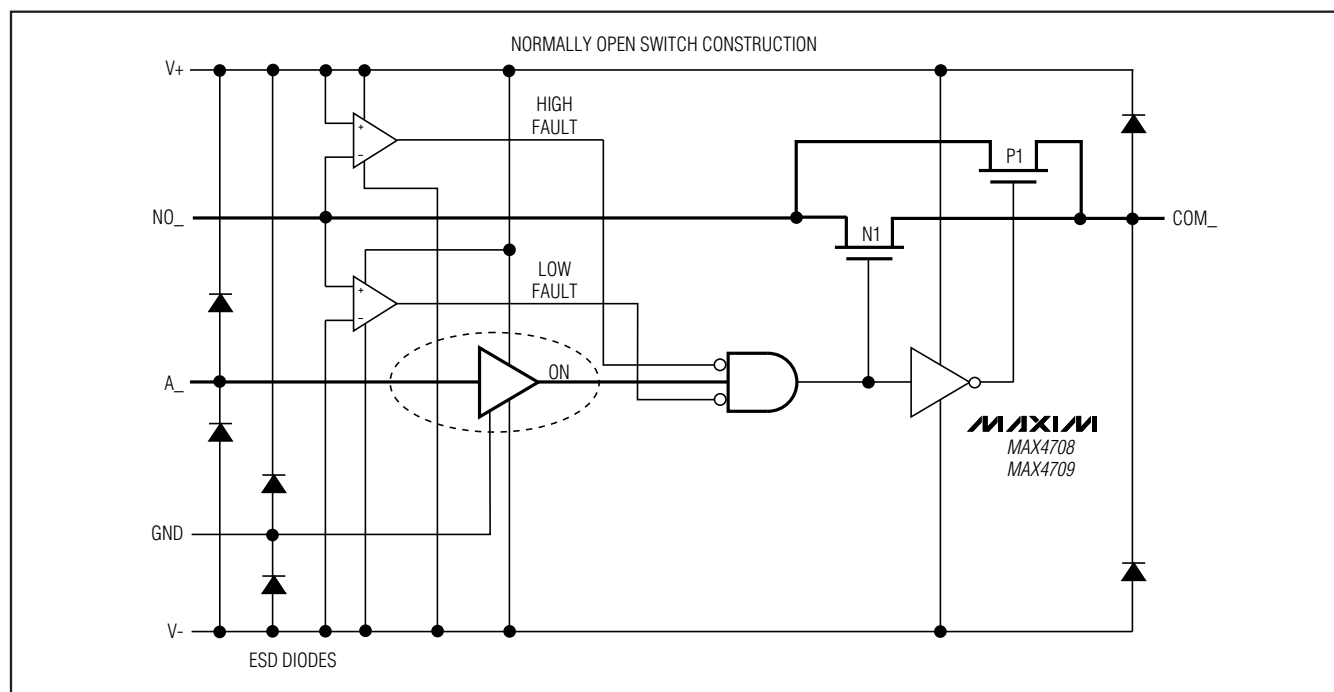

Figure 1. Functional Diagram
Figure 1 shows the internal construction of a single normally open (NO) switch, with the analog signal paths shown in bold. The parallel combination of N-channel FET N1 and P-channel FET P1 form the analog switch. During normal operation, these FETs are driven on and off simultaneously according to the control voltages on A_{_}. During a fault condition, both FETs turn off.
on NO_{_} ranges between V_+ and V_- , the multiplexer operates normally, with FETs N1 and P1 turning on and off in response to the control signals on A_{_} (Figure 1). When the switch state is on, the parallel combination of N1 and P1 forms a low-value resistor between NO_{_} and COM_{_} so that signals pass equally well in either direction. When the switch state is off, both NO_{_} and COM_{_} are high-impedance inputs.